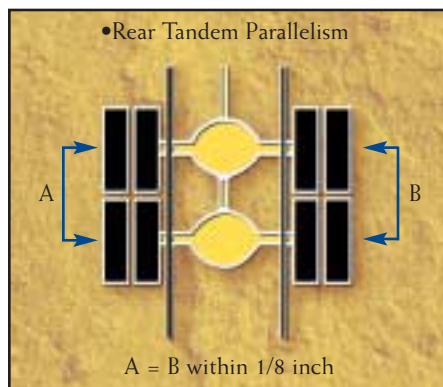

Figure 6.11
- Tandem axles should be parallel within 1/8-inch difference between the axles centers measured on the left and the right side of the vehicle. Figure 6.11